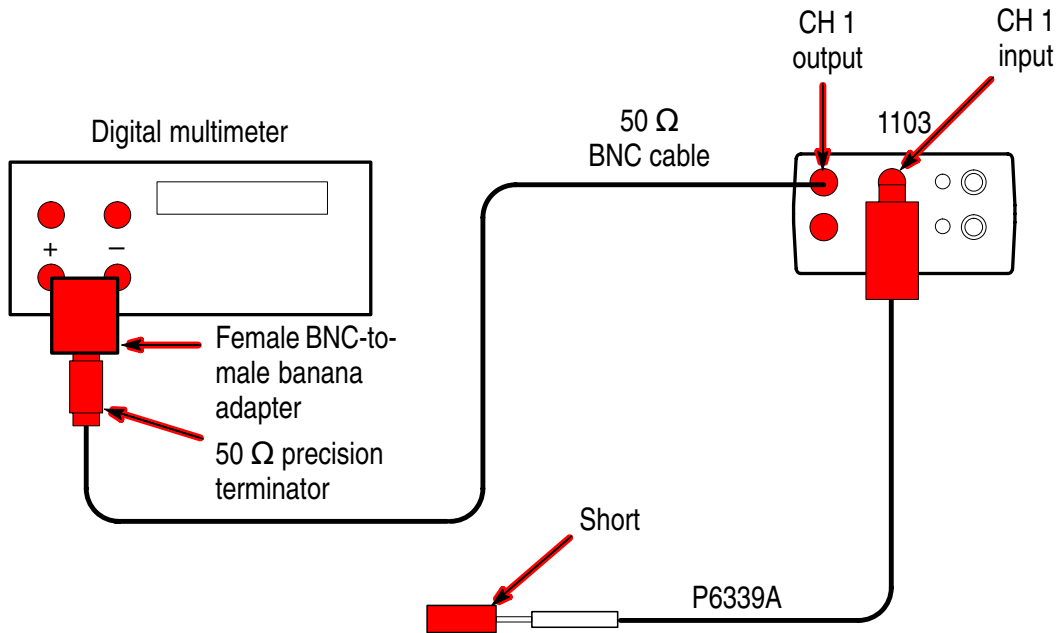

Figure 11: Setup for the output offset adjustment
1. Connect the probe as shown in Figure 11.